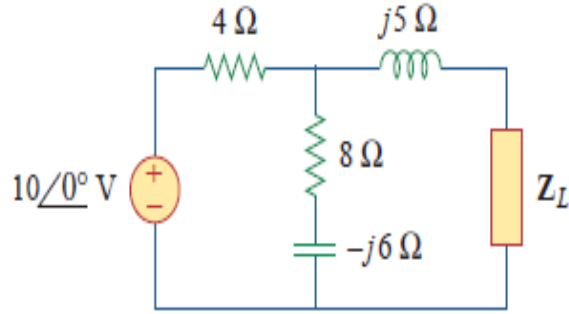

Fig. 6
c) Determine the load impedance that maximizes the average power drawn from the circuit of Fig.6